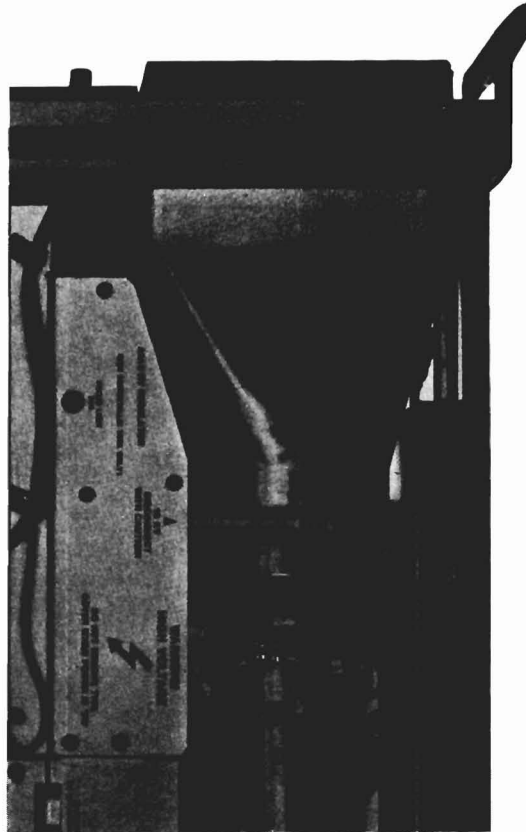

Figure 1.
8. Finish the installation according to the instructions in the Operating and Service Manual, Figures 8-7 and 8-8. See Figure 1.